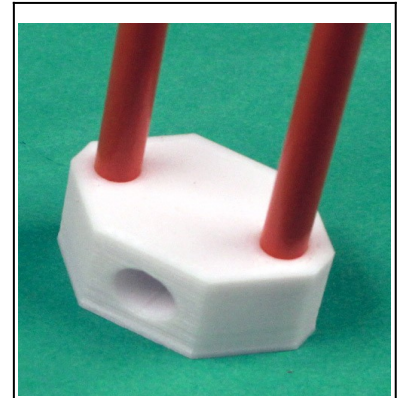

Figure 7: Feed point insulator
4. Insert the rod into the hub's front hole, and into the  $\frac{3}{8}$ " side hole on a feed point insulator (Figure 7).